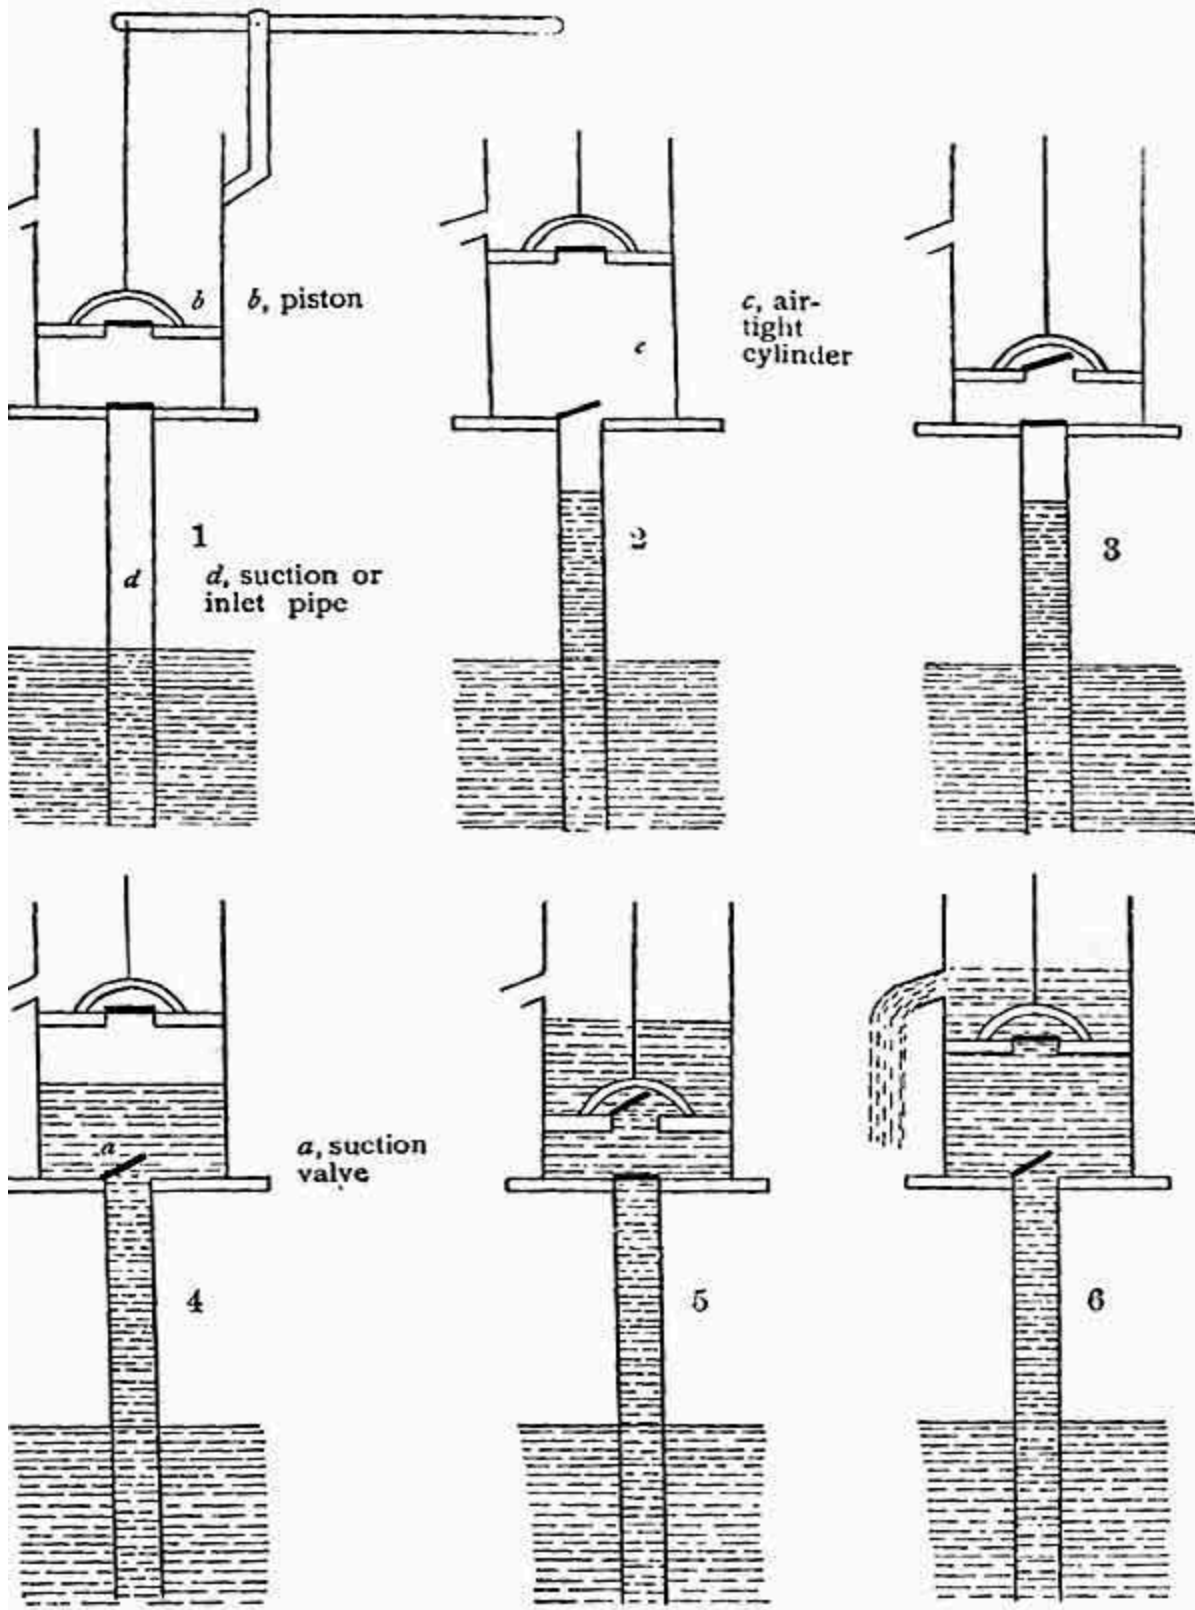

FIG. 133. Diagram of the process of pumping.
In order to understand the action of a pump, we will suppose that no water is in the pump, and we will pump until a stream issues from the spout. The various stages are represented diagrammatically by Figure 133. In (1) the entire pump is empty of water but full of air at atmospheric pressure, and both valves are closed. In (2) the plunger is being raised and is lifting the column of air that rests on it. The air and water in the inlet pipe, being thus partially relieved of downward pressure, are pushed up by the atmospheric pressure on the surface of the water in the well. When the piston moves